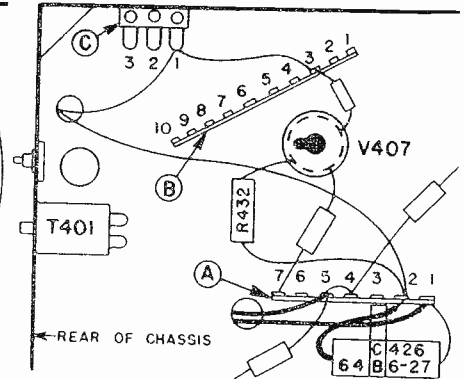

Fig. 2 MODIFIED CIRCUIT
6. Insulate one lead of a 0.5- $\mu$ f capacitor (64B6-27) with a 1-1/4" length of spaghetti tubing (96A2-5). Solder capacitor mounting strap to chassis next to terminal 3 of tie-strip "A". Connect capacitor between terminals 1 and 2 of tie-strip "A", insulated lead on terminal 2. See Fig. 2.